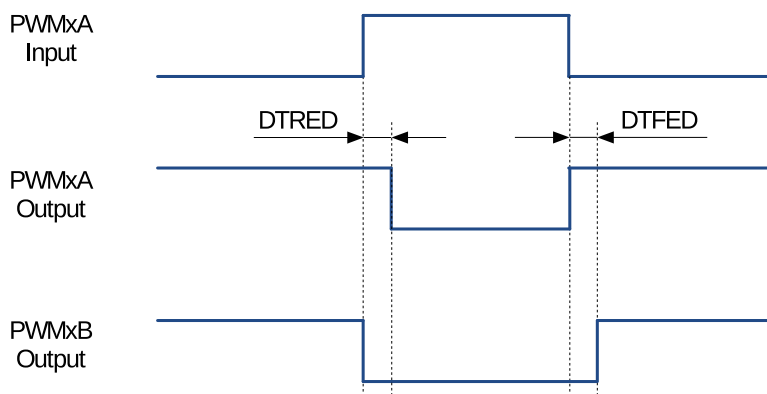

Figure 36-26. Active Low (AL) Dead Time Waveforms
| 5 | Active Low (AL), see Figure 36-26 | 0 | 0 | 1 | 1 |